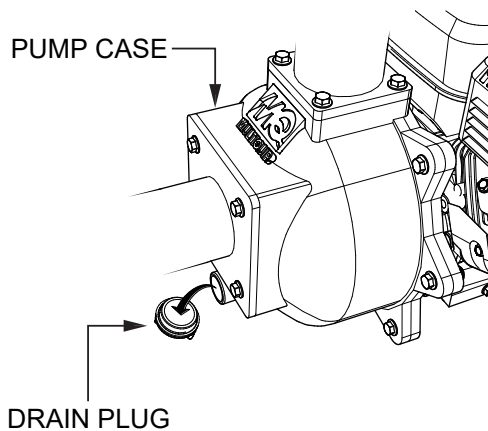

Figure 25. Remove The Drain Plug
3. Locate and remove the **pump drain plug** (Figure 25) on the pump end.